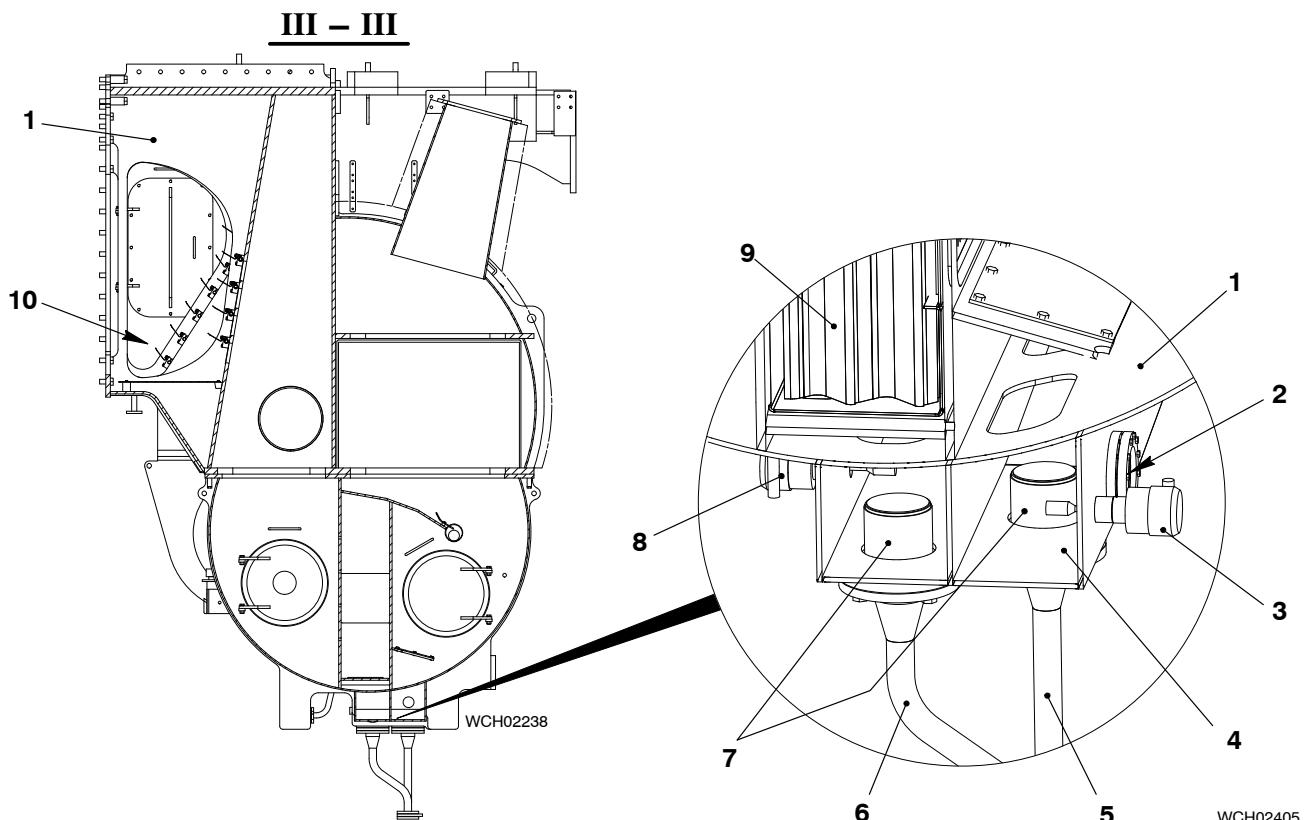

Fig. 2: Condensate Collectors
- 2) Lock the covers (1) in position with the pins (2). This will prevent unwanted movement.
Note: The level switches LS4071A and LS4075A (3, Fig. 2) monitor the water level in the condensate collectors (4). For engines with two turbochargers, there are two more level switches (LS4072A and LS4076A) installed. For more data, see the Operation Manual 4003-4 Pipe Diagram – Water Systems.
- a) At regular intervals, look at the sight glasses (2) of the condensate collector (4) to make sure that water flows.
- b) If necessary clean the filters (7) and the drain pipes (5, 6). For more data, see the Operation Manual 8345-1.
- c) Do a check of the flaps (10) for damage, free movement and dirt. If necessary, clean or replace the flaps (see paragraph 2).